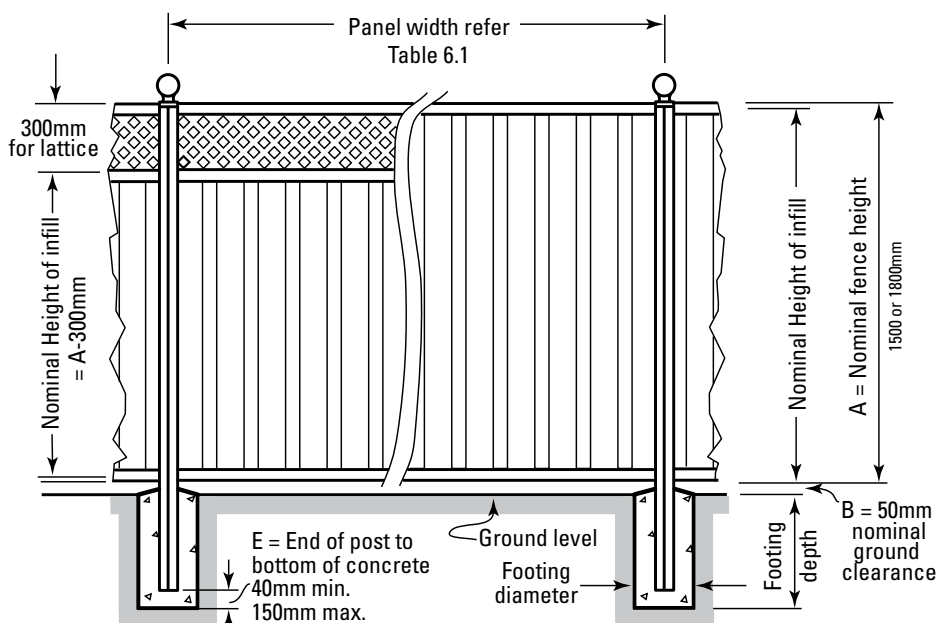

Figure 6.2
A = Nominal fence height (Figure 6.2)
B = 50mm ground clearance (Figure 6.2)
* Cut so that dimension E in Figure 6.2 is between 40 and 150 mm.